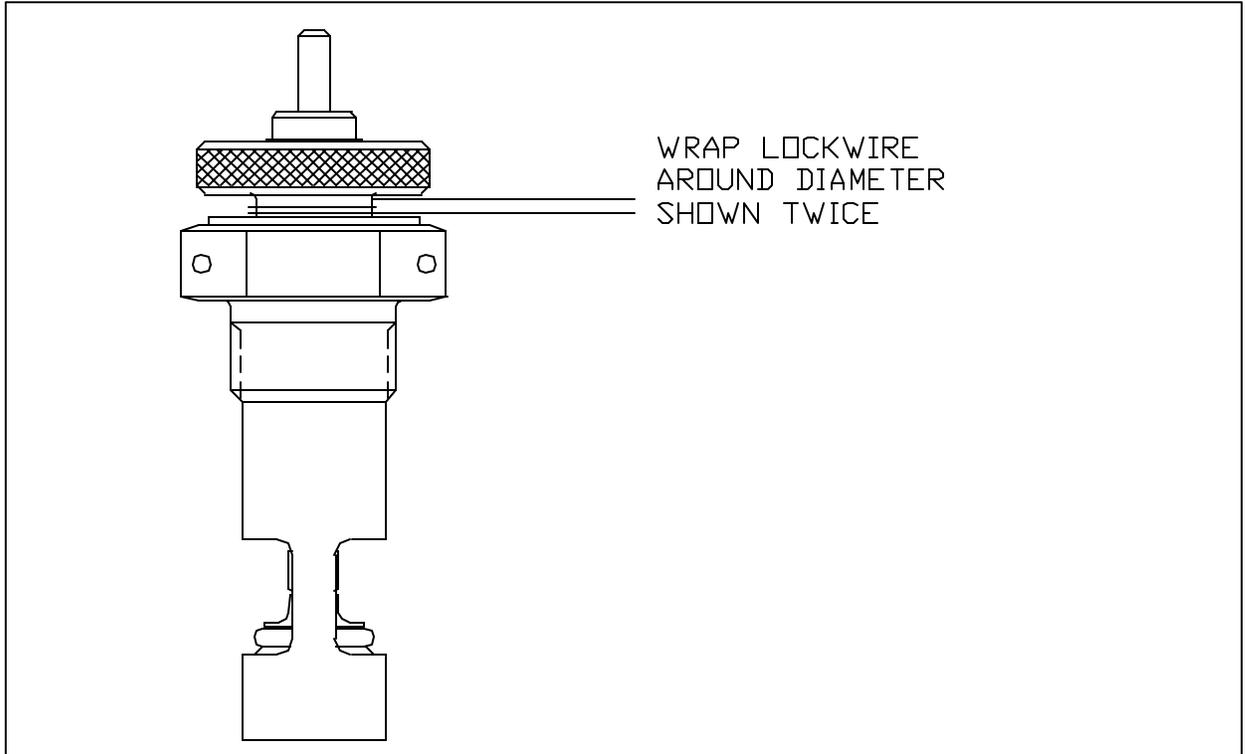

FIGURE 4A
- 2.2. Tightly wrap a piece of lockwire (approx 6 inch length) around the chip detector probe diameter shown two full times. (See Figure 4A.)